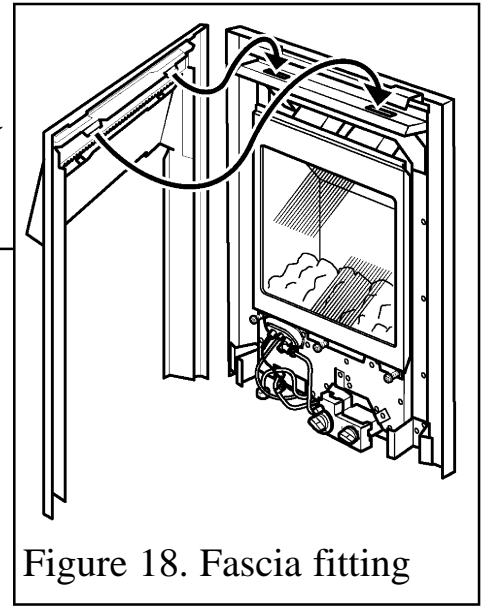

Figure 18. Fascia fitting
- Locate the two lugs at the top of the fascia in the slots in the convection box hood. Swing the bottom of the fascia sides back against the convection box and lower the fascia so that the lugs are fully seated in the slots in the convection box hood (See figure 18).